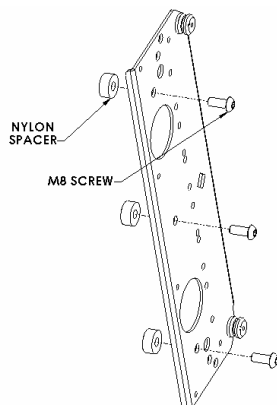
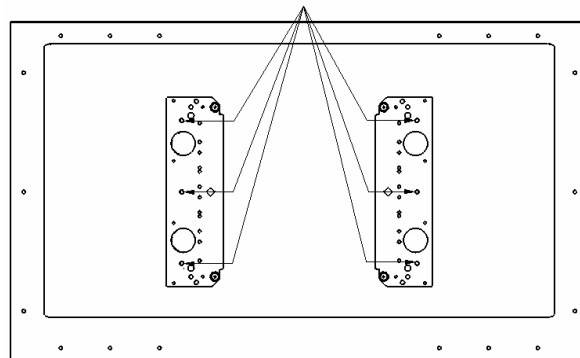

Figure 4
Figure 5
2. Place Nylon spacers on mounting holes and align hole pattern on brackets with pattern on back of display (see Figure 4 & Figure 5). Attach bracket using the M8 screws.